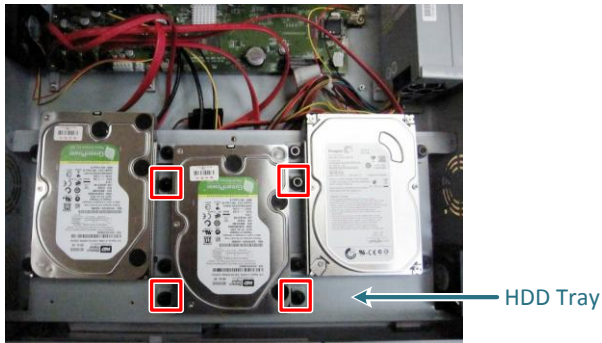

Figure 2-8
12. To screw the fixed internal HDD at the bottom of the DVR as in Figure 2-8, please see the steps below: